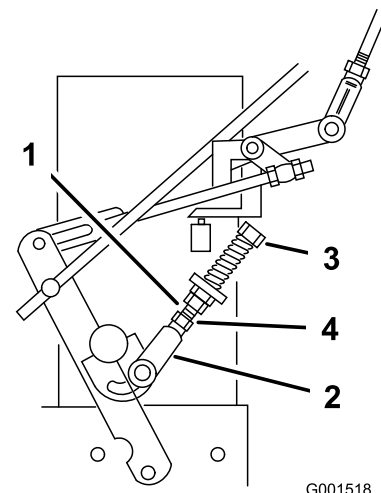

Figure 31
9. If the wheel turns while holding the drive lever in the NEUTRAL position, the neutral-control linkages need to be adjusted (Figure 31).
10. Loosen the nut against the neutral-control linkage yoke (Figure 31).
11. Adjust the neutral-control linkage until the respective drive wheel stops while the drive lever is pulled against the neutral spring (NEUTRAL position) as shown in Figure 31.
12. Turn the adjusting bolt approximately 1/4 turn clockwise if the wheel is turning in reverse. Turn the bolt approximately 1/4 turn counterclockwise if the wheel is turning forward (Figure 31).